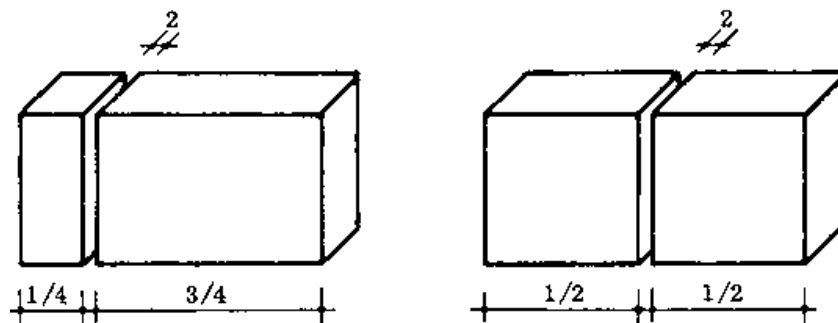

Fig. 5 1/4 - 1/2 - 3/4 BLOCKS
- 3/4 - 1/2 - 1/4 - BLOCKS: These are parts of blocks obtained by cutting a block through either the centre line or the quarter line, less half the thickness of the joint (Fig. 5). The cut is made along the width, not along the length. A special block gauge may be used for marking off the different sizes.